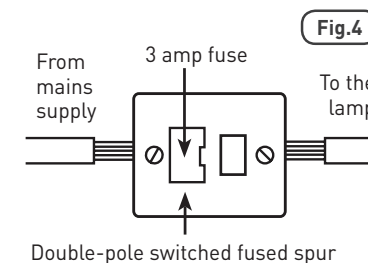

Fig.4
- It is recommended that the unit is connected to the domestic lighting circuit via a 5 amp fused spur and using 3-core round flexible cable of at least 1mm² gauge (Fig. 4).